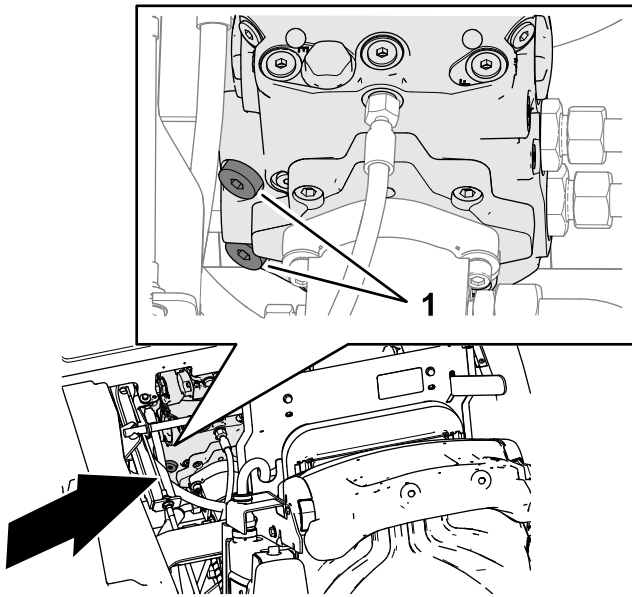

Figure 37
- Use an 8 mm (5/16 inch) hex key to rotate the 2 socket head plugs for the transmission pump-relief valves counterclockwise 3 full turns (Figure 37).